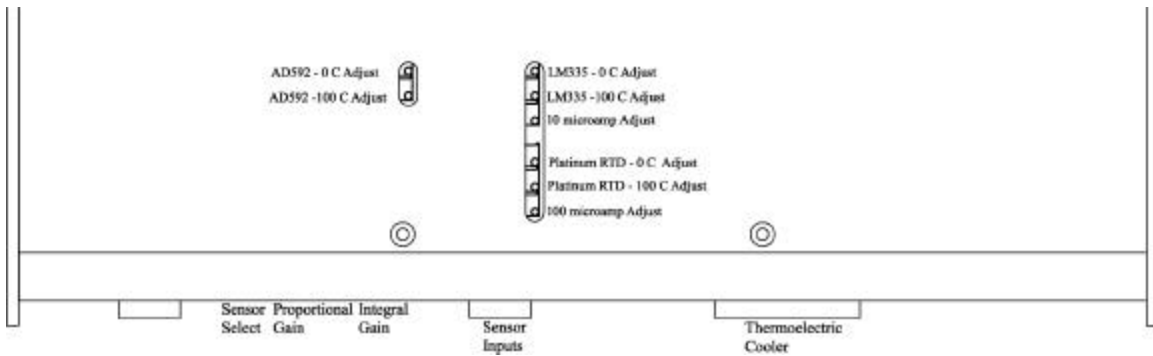

Figure 5. Calibration Adjustments
- b. Consult Figure 5 which shows the location of the calibration trimpot access slots in the top panel.